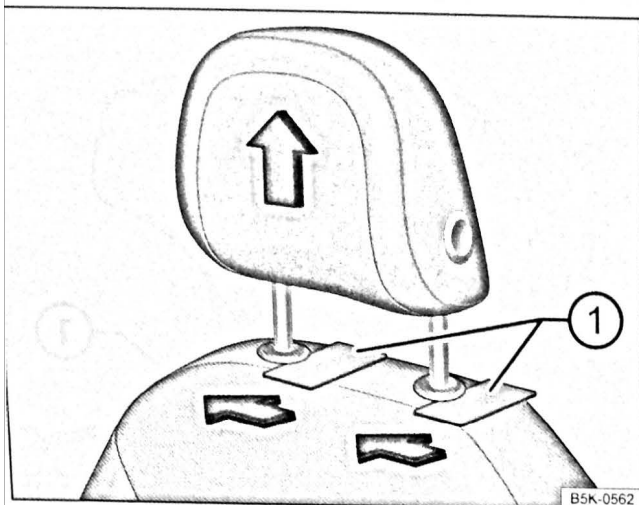

Fig. 48 Removing the front head restraint
- To release the head restraint, slide a flat object such as a plastic card between the backrest cover and the caps on the head restraint guide pins  $\Rightarrow$  Fig. 48 ① while a second person pulls the head restraint out fully.